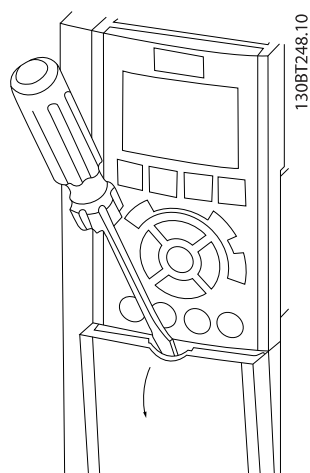

Figure 2.14 Control Wiring Access for A2, A3, B3, B4, C3 and C4 enclosures
- Remove access coverplate with a screwdriver. See *Figure 2.14*.